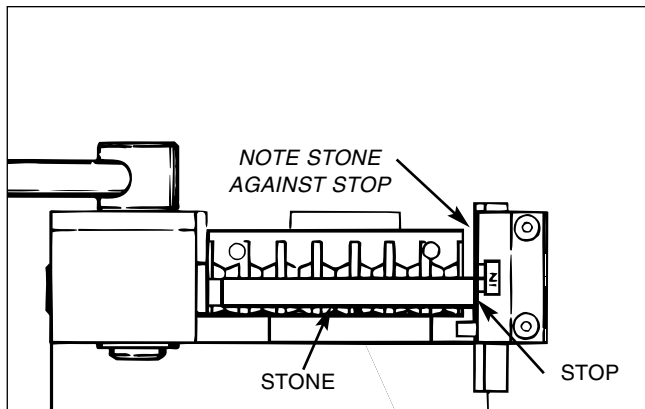

FIGURE 3-9, Install Stone
5. Place Stone in Master Stoneholder (see Figure 3-9). Lugs on stone sides should fit into cross slots of Master Stoneholder.